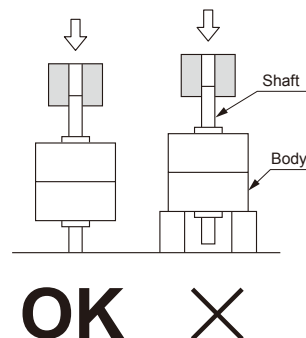

Fig. 3
- When mounting loads or jigs, etc., on the rotary actuator shafts, do so in such a way that the load is not received by the body as shown in Fig. 3.